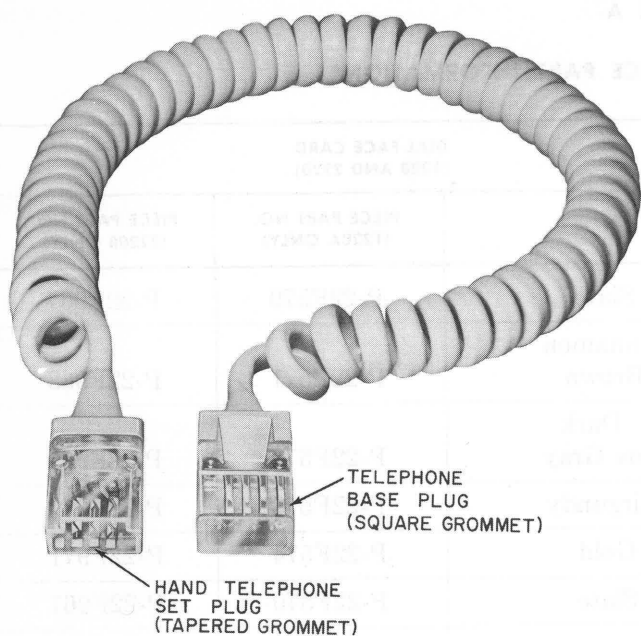

Fig. 3—H4DB Cord
- (1) Connect the 220A, 1220A, or 2220B hand telephone set to a telephone base by plugging an H4DB cord (Fig. 3) or H5AA (tip